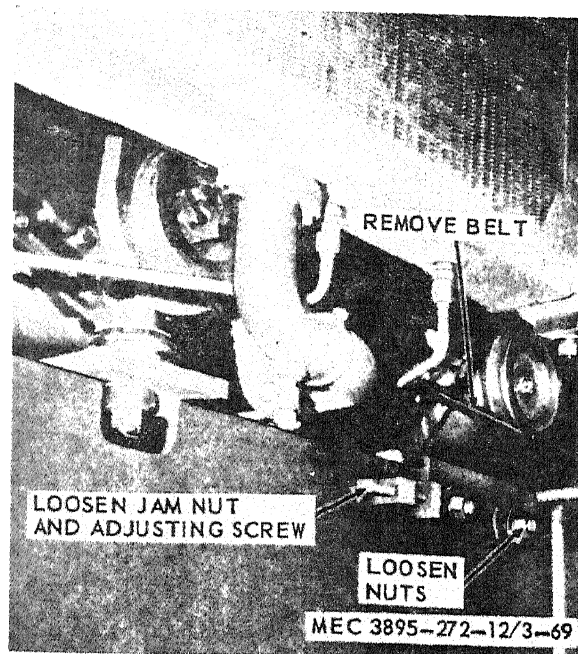

Figure 3-69. Hydraulic pump belt, removal and installation.
- a. *Removal.* Remove the hydraulic pump belt as instructed on figure 3-69.
- (1) Clean the belt with an approved cleaning solvent.
- (2) Inspect the belt for wear, cuts, and fraying. Replace a badly worn or damaged belt.
- c. *Installation.* Install the hydraulic pump belt in reverse of the instructions on figure 3-69.